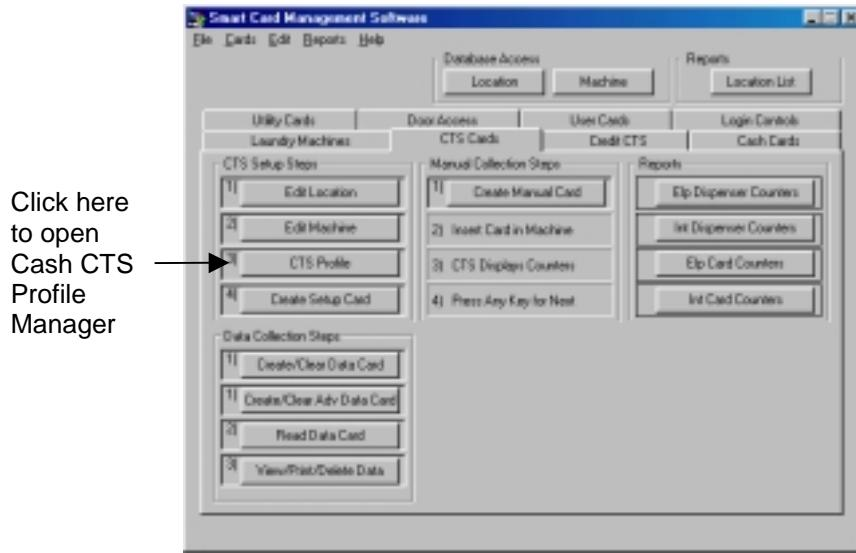

Figure 9.2 Opening the Cash CTS Profile Manager
- In the Cash CTS Cards tab, click the Cash CTS Profile button (Figure 9.2).
1. In the Cash CTS Cards tab, click the Cash CTS Profile button (see Figure 9.2).